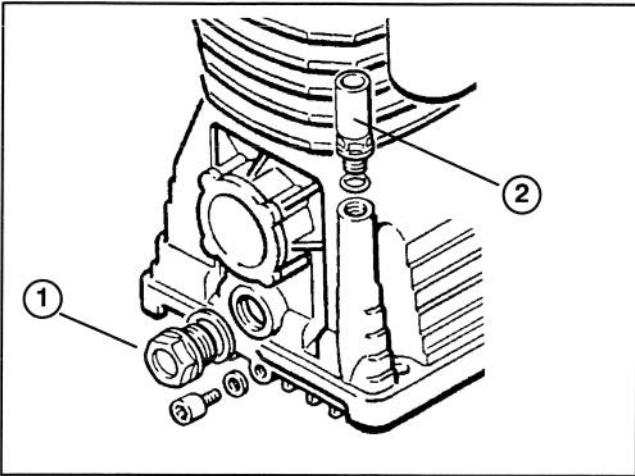

Figure 3
2. Check sight glass (Fig. 3) to ensure oil in pump is at required level.
3. If oil level is low, remove oil fill plug (Fig. 3) and add proper amount of oil.